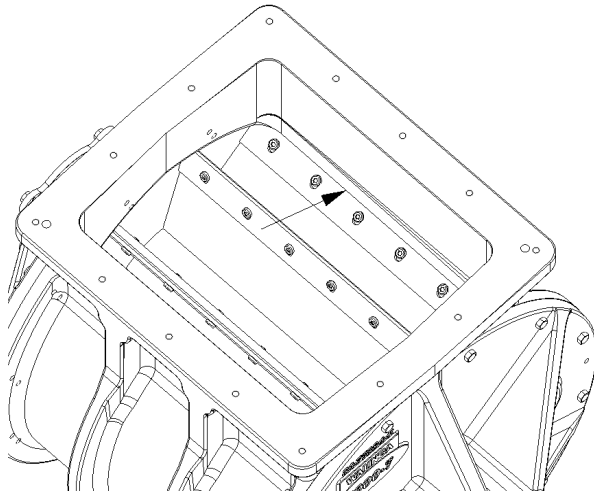

Figure 7-38: Tip and casing clearance
- c. Use a feeler gauge to check the clearance between the tip and casing along the blade's entire length for each tip. Measure the clearance with reference to the casing edge opposite of the wiper blade, as shown in **Figure 7-38** (the casing edge on the side of the wiper blade experiences greater levels of normal operational wear, meaning measurements taken in reference to this edge may result in clearances lower than the minimum allowable clearance, resulting in scraping or damage between the tip and casing). Reference **Table 7-4** for tip clearance requirements.